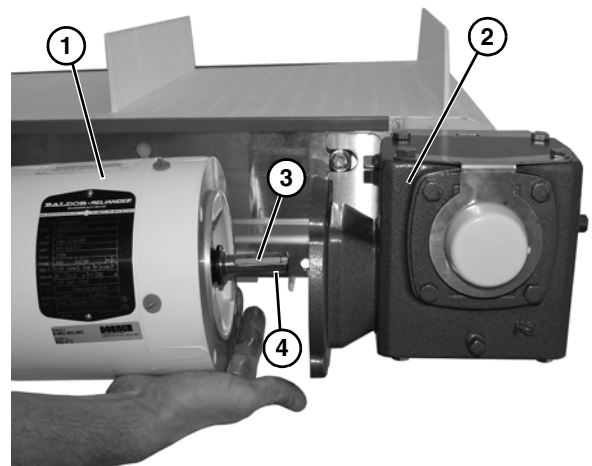

Figure 20
2. Slide motor (**Figure 20, item 1**) off of gear reducer (**Figure 20, item 2**), and remove shaft key (**Figure 20, item 3**) from motor shaft (**Figure 20, item 4**).